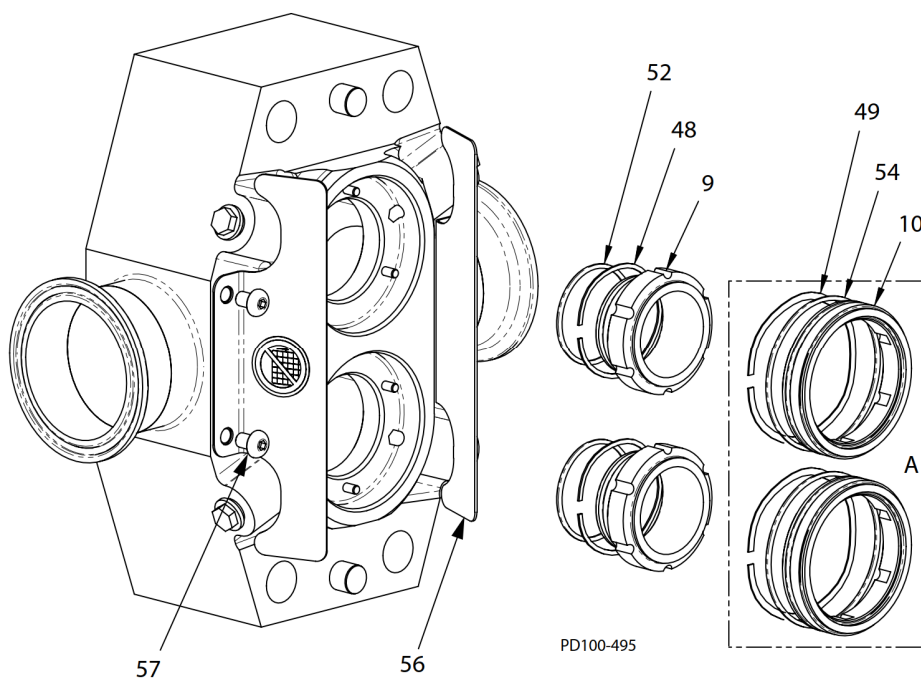

Fig. 53: Shaft Seal Installation
3. Install the inner seal O-ring (Figure 53, item 52) into the inner seal groove and install the wave spring (item 48) onto the body of the inner seals (item 9).
5. Fasten the guards (Figure 53, item 56) to the body with button head screws (item 57).
6. For pumps equipped with double seals (Figure 53, inset A):
Install the outer seal O-ring (Figure 53, item 54) into the groove in the outer seal (item 10).